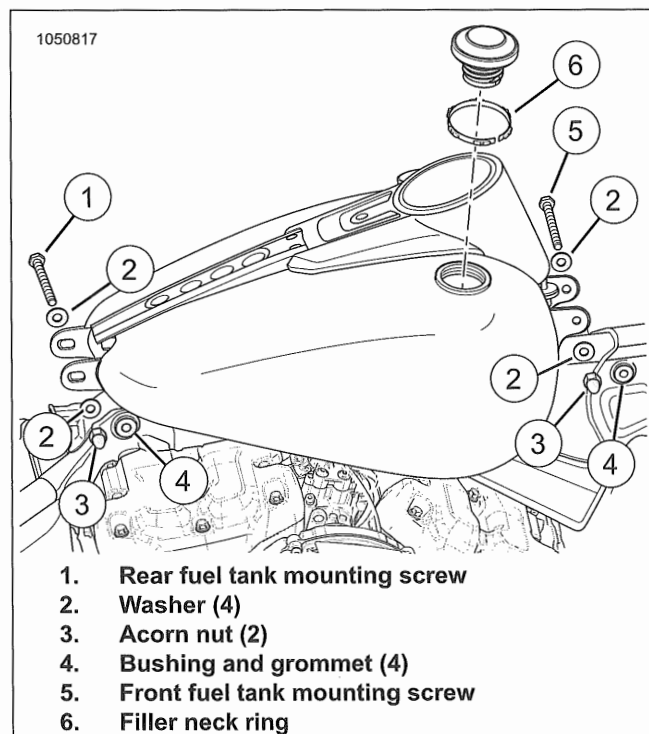

Figure 6-16. Fuel Tank
1. See Figure 6-16. Remove fuel tank.
- a. Remove front fuel tank mounting screw (5), washers (2), and acorn nut (3).
- c. Remove bushings and grommets (4) if necessary.
1. See Figure 6-16. Install fuel tank.
- a. Install bushings and grommets (4) if removed.
- c. Loosely install front fuel tank mounting screw (5), washers (2), and acorn nut (3).